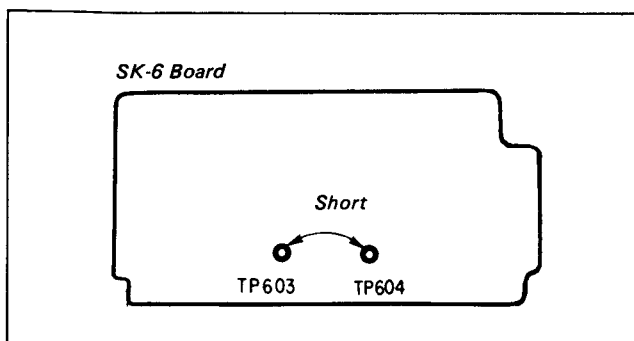

Fig. 1-57
- 3) Short TP603 and TP604 on the SK-6 Board. (See Fig. 1-57.)